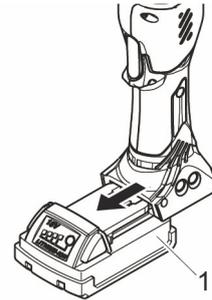

Fig. 5: Removing the battery.
2. Remove battery (Fig. 5/1) from clamp pincer.